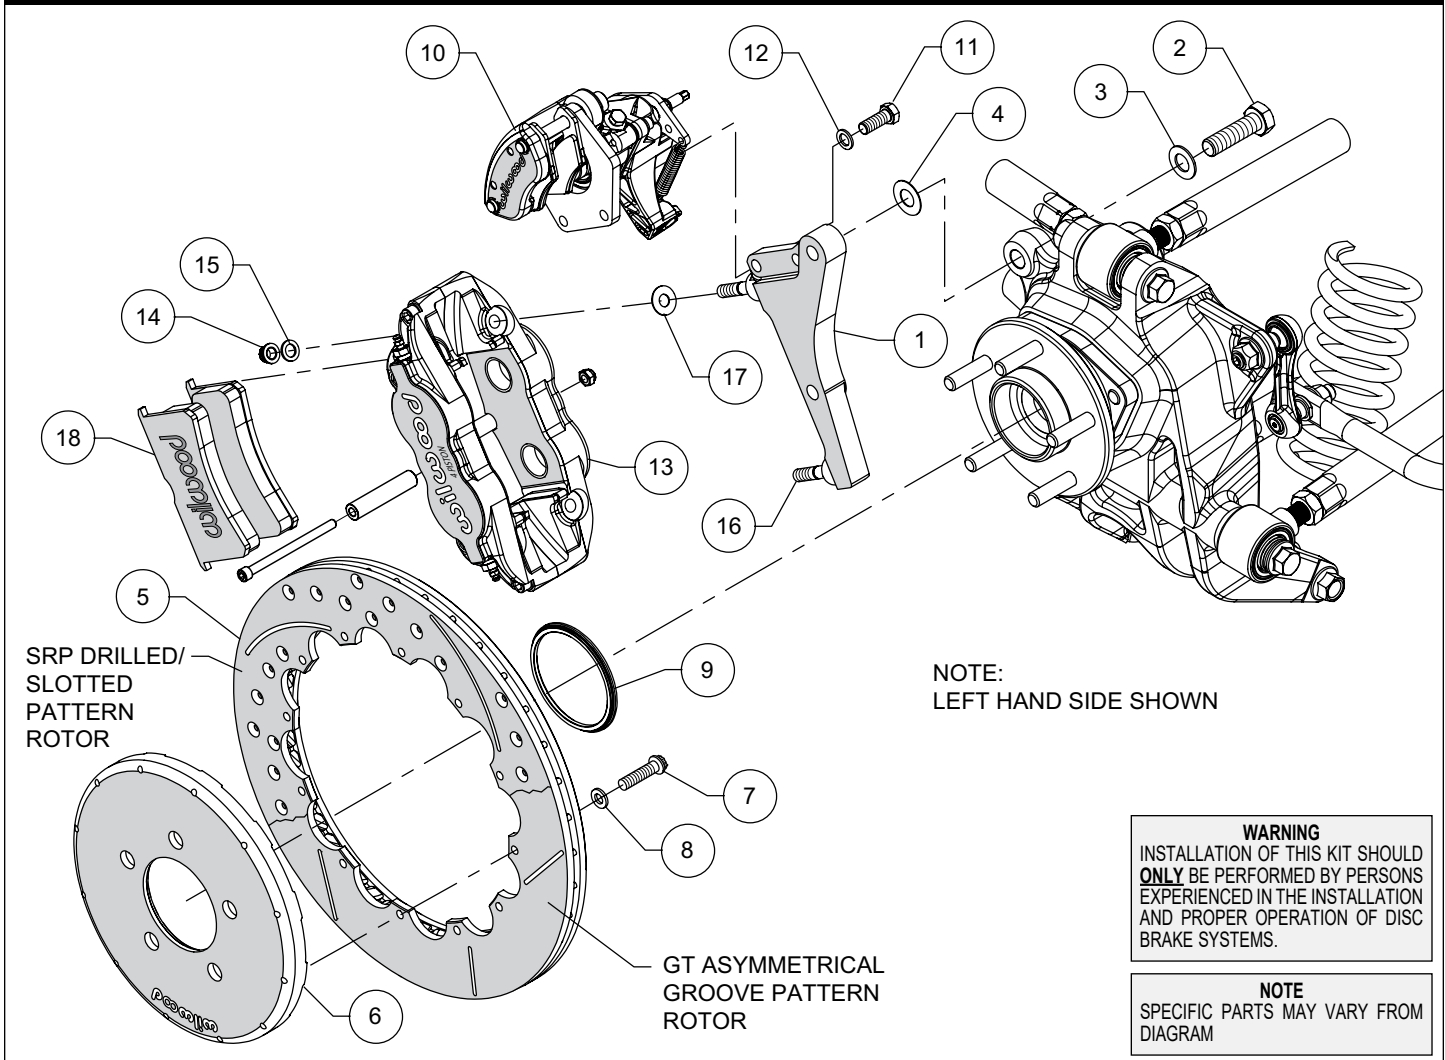
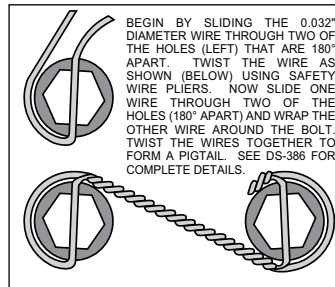

Figure 1. Typical Installation Configuration
Figure 3. Safety Wire Diagram
NOTE: Numbers in parenthesis refer to the parts list and Figure 1 on the preceding pages.
- The caliper mount bracket (1) should initially be installed with clean, dry threads on the mounting bolts. Orient the bracket as shown in Figure 1, and Photo 1, and install using bolts (2) and washers (3). Initially place one .029" thick shim (4) on each bolt between the bracket and upright, Figure 1. Temporarily tighten the mounting bolts. **NOTE:** The bracket must fit squarely against the mount bosses on the upright. Inspect for interference from casting irregularities, machining ridges, burrs, etc. Later, after the caliper alignment has been checked, the mount bolts will be secured using red *Loctite*® 271.
- Orient the rotor (5) and the hat (6) as shown in Figure 1 and Photo 2. Attach rotor to hat using bolts (7) and washers (8). Apply red *Loctite*® 271 to the bolt threads and torque to 155 in-lb using a criss-cross pattern. For an added measure of security, the bolts may be safety wired using standard 0.032 inch diameter stainless steel safety wire as shown in Figure 3. Please refer to Wilwood's data sheet DS-386 (available at www.wilwood.com/Pdf/DataSheets/ds386.pdf) for complete safety wire installation instructions.
- Lubricate the caliper mounting studs (16) with lightweight oil. Initially place one .035" thick shims (17) on each stud as shown in Figure 1 and Photo 5. Mount the caliper (13) onto the bracket (1) using lock nuts (14) and washers (15), Figure 1. Temporarily tighten the lock nuts and view the rotor through the top opening of the caliper. The rotor should be centered in the caliper, Photo 6. If not, adjust by adding or subtracting shims (4) between the bracket and the mounting bosses. Always use the same amount of shims on each of the two mounting bolts. Once the caliper alignment is correct, remove the bracket mounting bolts (2) one at a time, apply red *Loctite*® 271 to the threads, and torque to 77 ft-lb.
- Orient the parking brake caliper (10), as shown in Figure 1 and Photo 10, and mount onto the top section of the caliper mounting bracket (1) using bolts (11) and washers (12), Figure 1. Apply red *Loctite*® 271 to bolt threads, and torque to 30 ft-lb.